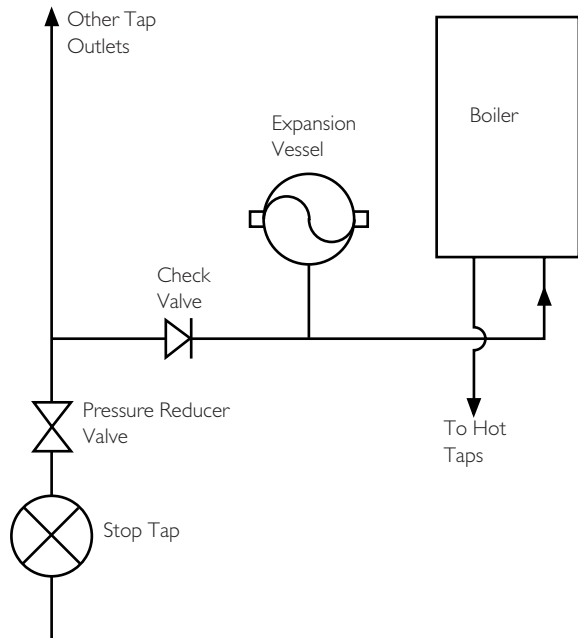

Fig. 8
6.8 Domestic Hot Water Circuit (Fig. 8)
3. A single check valve must be fitted as shown in Fig. 8 to prevent backflow to the supply pipe and to ensure the efficient operation of the expansion vessel which is required to accommodate the thermal expansion of the water.